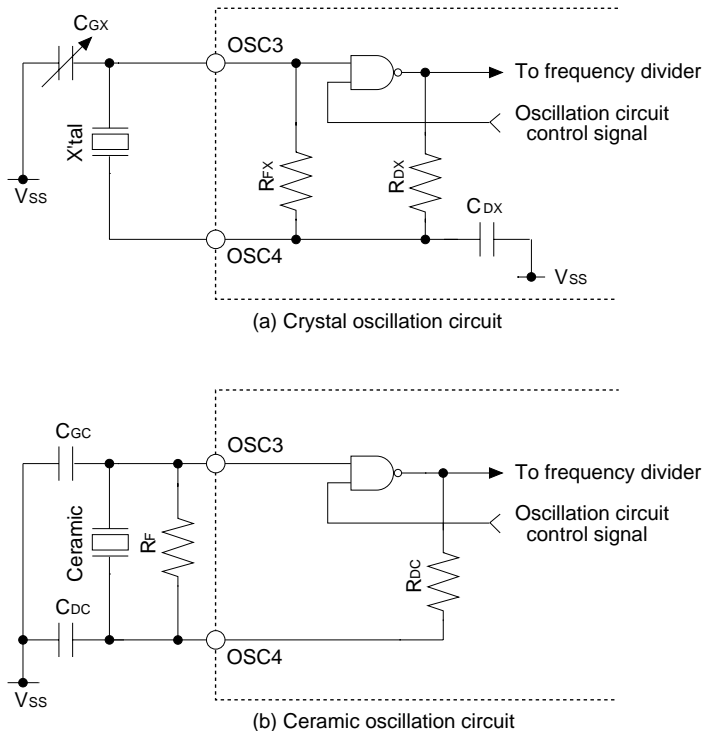

Fig. 4.3.3 OSC3 oscillation circuit
Figure 4.3.3 is the block diagram of the OSC3 oscillation circuit.
As Figure 4.3.3(a) indicates, the crystal oscillation circuit can be configured simply by connecting the crystal oscillator (Typ. 3.579545 MHz) between terminals OSC3 and OSC4 to the trimmer capacitor (CGX) between terminals OSC3 and Vss. When ceramic oscillation is selected, the ceramic oscillation circuit can be configured by connecting the ceramic oscillator (Typ. 3.579545 MHz) and feedback resistor (RF) between terminals OSC3 and OSC4 to the two capacitors (CGC and CDC) located between terminals OSC3 and OSC4 and Vss. To lower current consumption of the OSC3 oscillation circuit, oscillation can be stopped through the software.